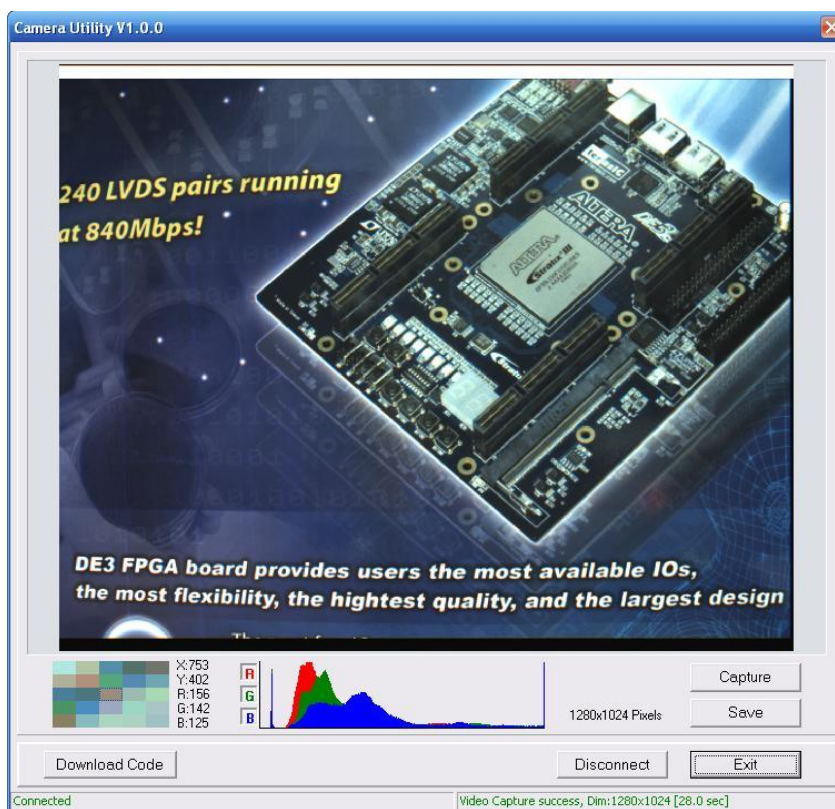

Figure 3-4 The DE2\_70\_camera tool
12. Users can upload the captured image to PC by clicking the 'Capture' button of the 'DE2\_70\_CAMERA.exe' as shown in **Figure 3-4**. Meanwhile, the digital camera is set to photo-taking mode. Press **KEY3** to switch back to FREE RUN mode.